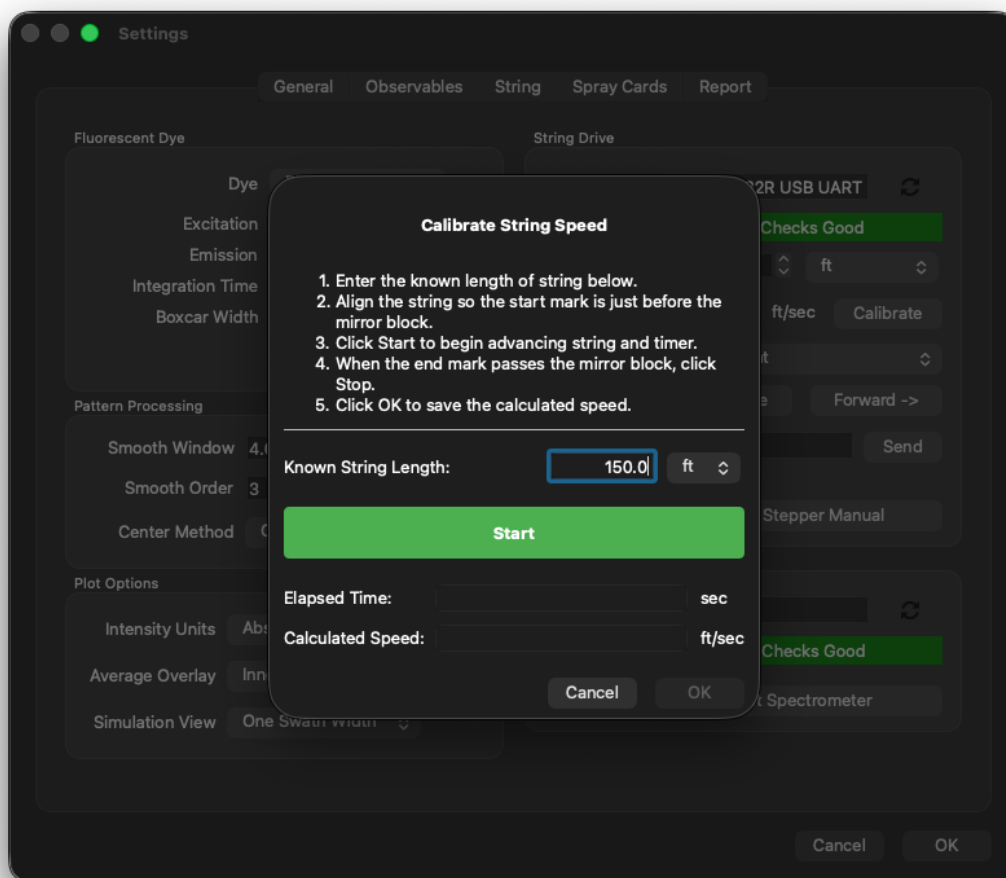

Figure 5: Settings - String Tab - Calibrate Speed
- **String Speed:** The calibrated velocity of the string as it is processed. This is used to determine the location of each data point and duration of data capture for each pass. A **Calibrate** button opens an interactive calibration window (Figure 5) to use a known length of string (defaults to flightline length but any length may be used) to calculate the speed.